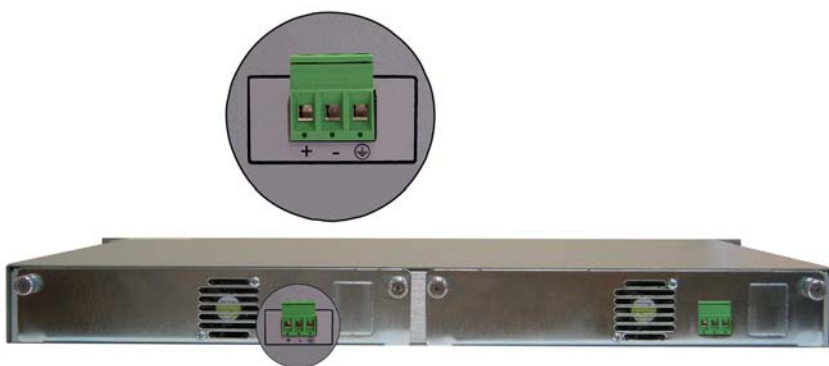

Fig. 6 5-Module Chassis with two Installed DC Power Supplies
- ❑ Using a screwdriver, loosen the 2 thumb screws securing the power supply to the main chassis (refer to Fig 6).